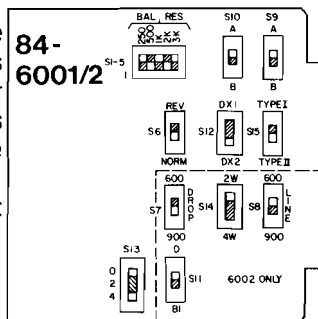

figure 5.
3.05 All options on the 6001 and 6002 modules are selected via slide or DIP switches located as shown in figure 5. Please note that switches *S7*, *S8*, *S11*, and *S14* are **not** provided on the 6001 module; all other switches are in the location shown. Switch designations are indicated on the printed circuit board adjacent to each switch.